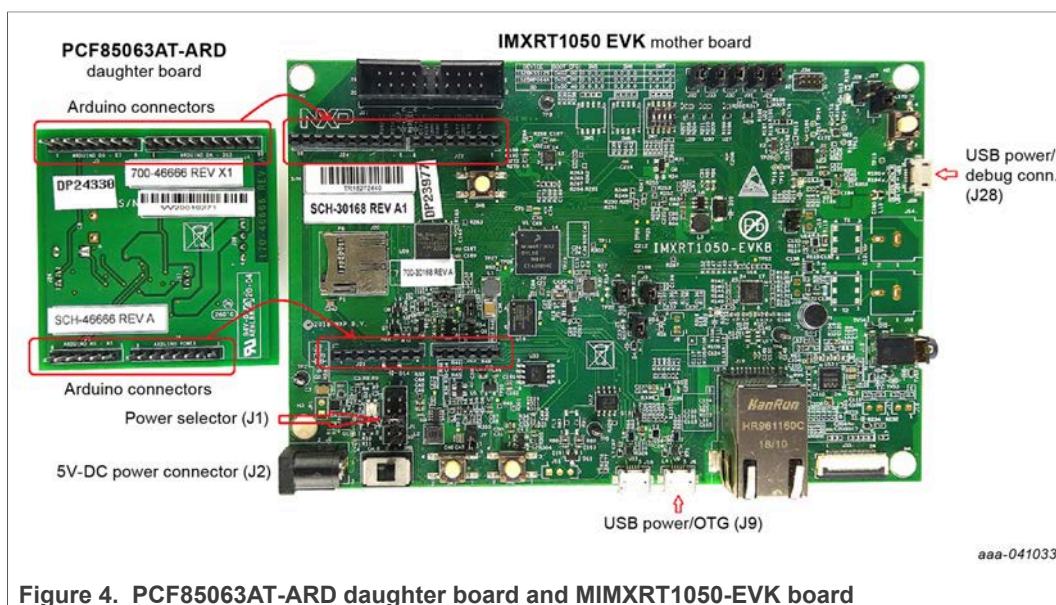

Figure 4. PCF85063AT-ARD daughter board and MIMXRT1050-EVK board
Figure 4 shows the required hardware for operation of the PCF85063AT-ARD daughter board with MIMXRT1050-EVK.
The MIMXRT1050-EVK mother board can be powered through three different connectors: using an external 5.0 V DC power supply, connected to J2 barrel power connector, directly from an USB port through J9 USB Micro-B connector (J9), or from the same USB port through J28 connector. J28 can be used as a debug connector, therefore using J28, through the same USB cable, the EVK can be powered and in the same time linked to PC for data exchange. The older USB ports (from PC) are not able to deliver the necessary current (500 mA), before establishing the communication, use an external power supply (connected to J2). From J1 (see Figure 4), the user can select the power configuration for the mother board. For more details, see i.MX RT1050 Evaluation Kit.
2. Insert the PCF85063AT-ARD daughter card on the Arduino port of the EVK (see Figure 4).